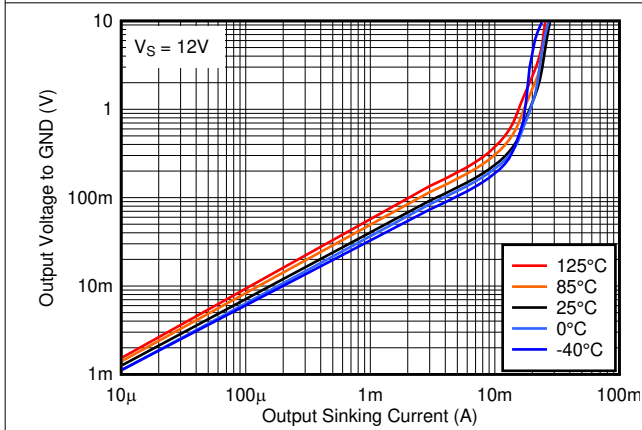

图 2-21. Output Low Voltage vs. Output Sinking Current at 12V
Output current is determined by the load/pull-up resistance and logic/pull-up voltage. The output current produces a output low voltage ( $V_{OL}$ ) from the comparator. In which  $V_{OL}$  is proportional to the output current. Use 图 2-21 to determine  $V_{OL}$  based on the output current.
- $R_{CE}$  can be determine by taking the slope of 图 2-21 in it's linear region at the desired temperature, or by dividing the  $V_{OL}$  by  $I_{out}$